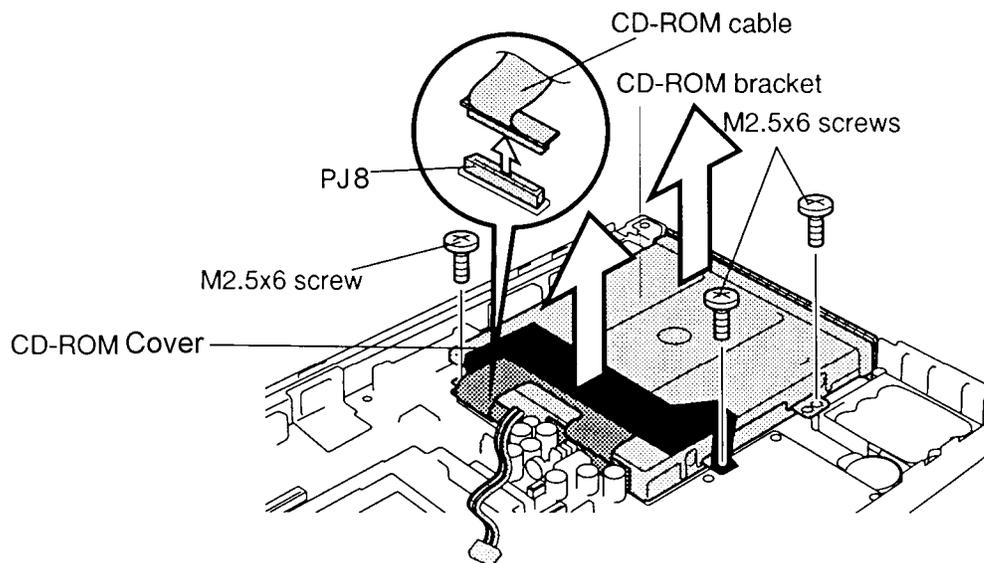
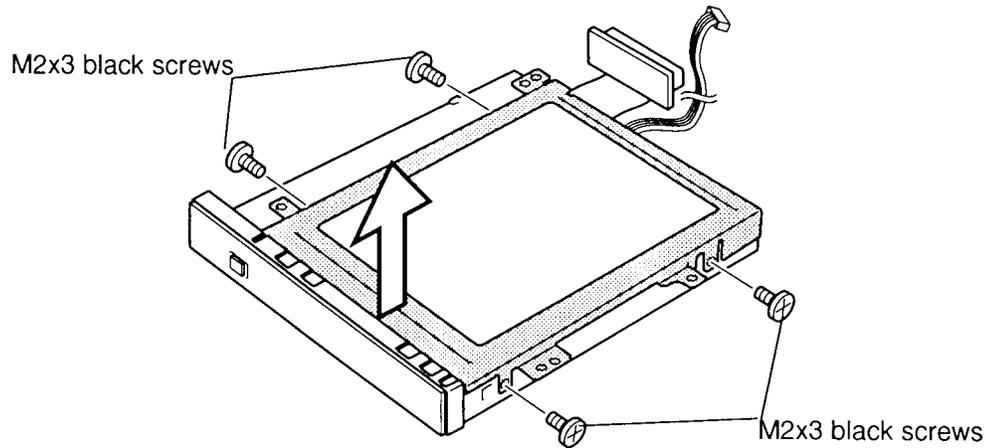

Figure 4-19 Removing the CD-ROM drive with bracket
Figure 4-20 Removing the HDD
To remove the T2150 series CD-ROM drive, follow the steps below and refer to figures 4-19 and 4-20.
3. Disconnect the **CD-ROM drive cover** and the **CD-ROM cable** from **PJ8** on the system board and remove **three M2.5x6 screws** on the **CD-ROM bracket** (figure 4-19).
4. Remove **four M2x3 black screws** securing the bracket to the CD-ROM drive and slip off the bracket (figure 4-20).
To install the T2150 series CD-ROM drive, follow the steps below and refer to figures 4-19 and figures 4-20.
1. Secure the bracket to the **HDD** with **four M2x3 black screws** (figure 4-20).
2. Place the **CD ROM drive** in the computer, and connect the **CD-ROM cable** to **PJ8**, then secure to the system board and the CD-ROM front cover with **three M2.5x6 screws** (figure 4-19).